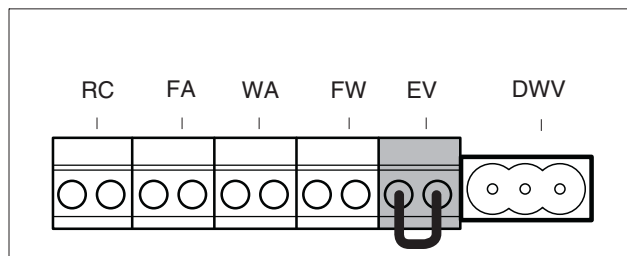

fig. 50 Terminal strip - external switch contact, potential-free, e. g. for floor heating (connection colour red)
- Remove the cable from the EV terminal (fig. 50).
- Connect the external switch contact to the red EV terminal (fig. 50).